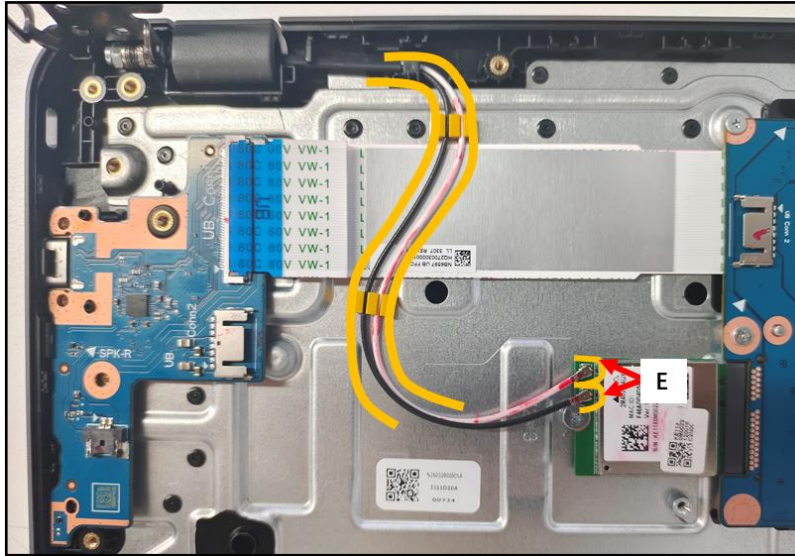

Figure 3-95. Replacing the LCD Module
5. Route and secure the WLAN antenna cables along the cable guides on the top assembly (Figure 3-95).
6. Connect the WLAN antennas cables to the WLAN module connectors (E) (Figure 3-95).